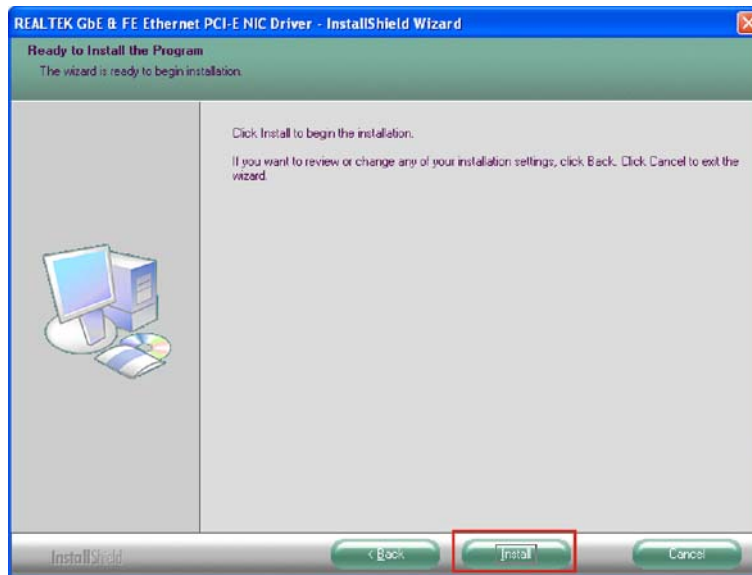

Figure 7-20: LAN Driver Welcome Screen
Step 7: The **Ready to Install** screen in Figure 7-20 appears.